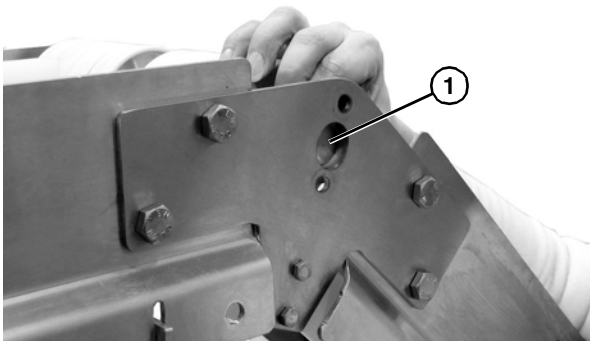
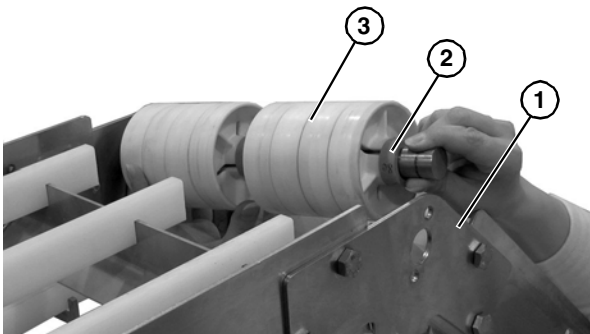

Figure 72
Figure 73
- Slide shaft (**Figure 72, item 1**) inwards to remove from knuckle frame (**Figure 73, item 1**).
Spacer (**Figure 73, item 2**) and pucks (**Figure 73, item 3**) are loose and can slide off the shaft.